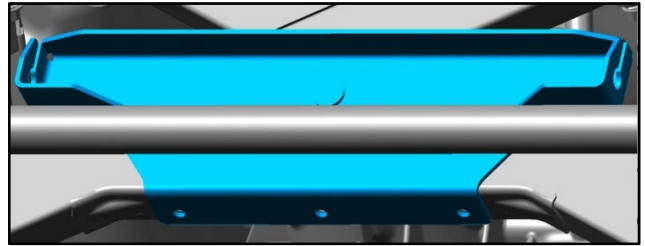

Figure 1
- If the bracket is the same as Figure 1, do steps 3 thru 15 to replace the bracket.